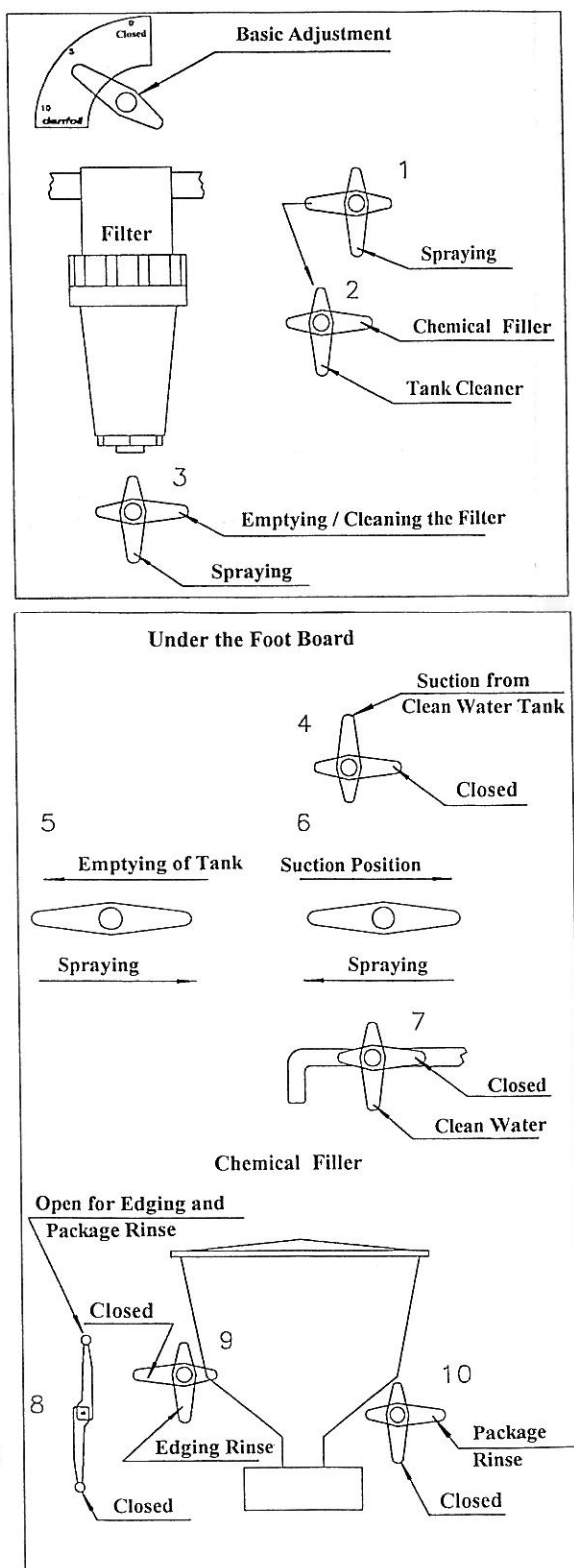

Fig. 2
It is also possible to let the pump draw water into the tank of the sprayer through the suction hose under the foot board. In such case, the rear three-way-tap (no. 6 fig. 2) must be turned 180°.
*The two taps* (no. 5 & no. 6 fig. 2) under the foot board are opened with the direction indicators pointing towards each other, leading the water from the tank into the pump.